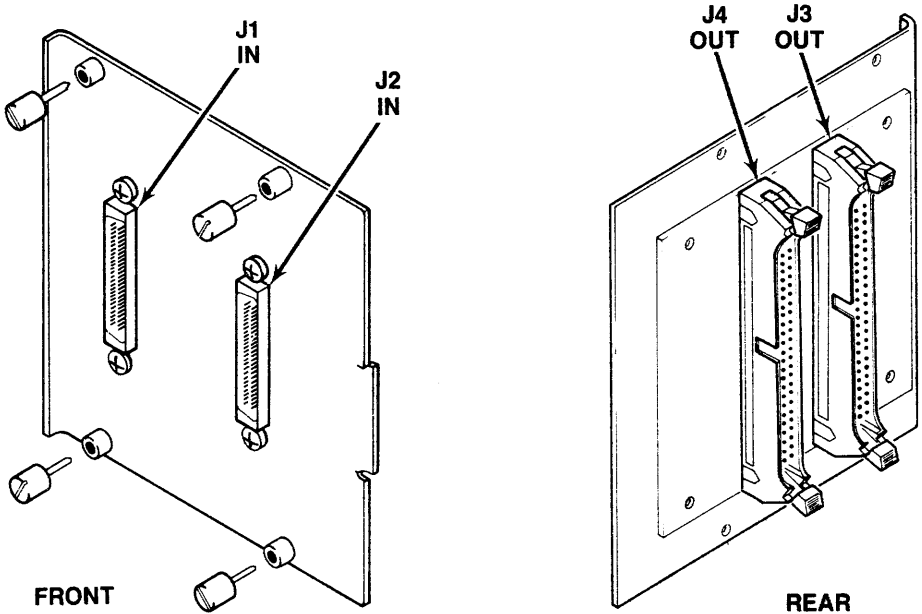
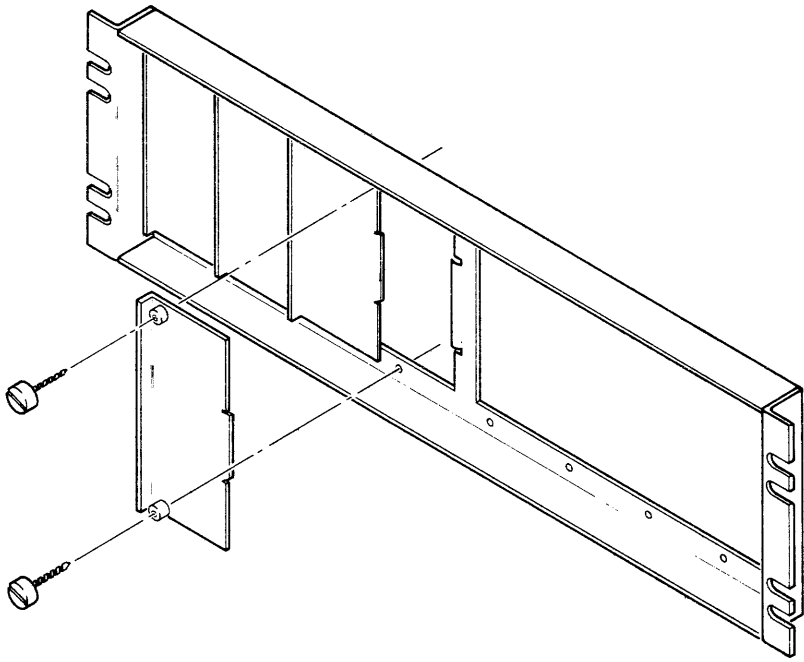
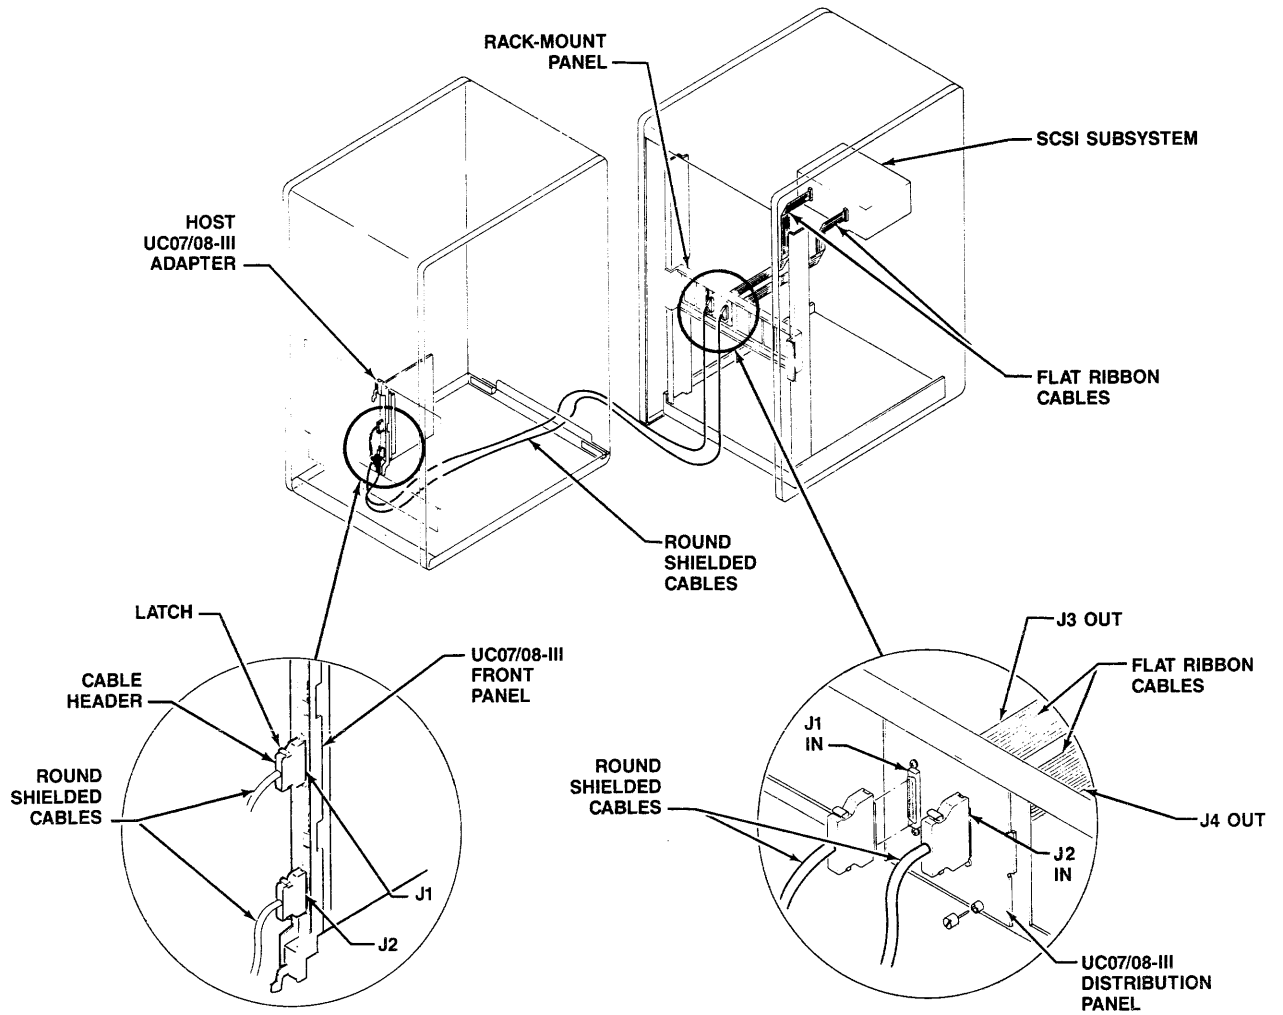

Figure 4-6. UC07/08-III Distribution Panel
Figure 4-7. Rack-Mount Panel
Figure 4-8. UC07/08-III Subsystem Cabling
Because the UC07/08-III PCBA and the SCSI subsystems are located in separate cabinets, the cables that run between the cabinets are shielded. The points of cabinet exit and entry must not cause the computer installation to exceed FCC limits for RFI. The UC07/08-III Distribution Panel, rack-mount panel, and round-shielded cables designed for this purpose are available from Emulex (subsection 1.3). The UC07/08-III Distribution Panel (Figure 4-6) is designed to fit directly into a rack-mount panel which installs in any standard 19-inch RETMA rack. The rack-mount panel is shown in Figure 4-7.
2. Remove two of the four small panels from one side of the rack-mount panel (Figure 4-8). Install a UC07/08-III Distribution Panel (Figure 4-6) in the resulting aperture and secure it with the four captive screws. Tighten the screws finger-tight. Make sure that no gaps are present around the UC07/08-III Distribution Panel.
3. Install the rack-mount panel containing the UC07/08-III Distribution Panel in the RETMA rack in the transport cabinet (Figure 4-8).